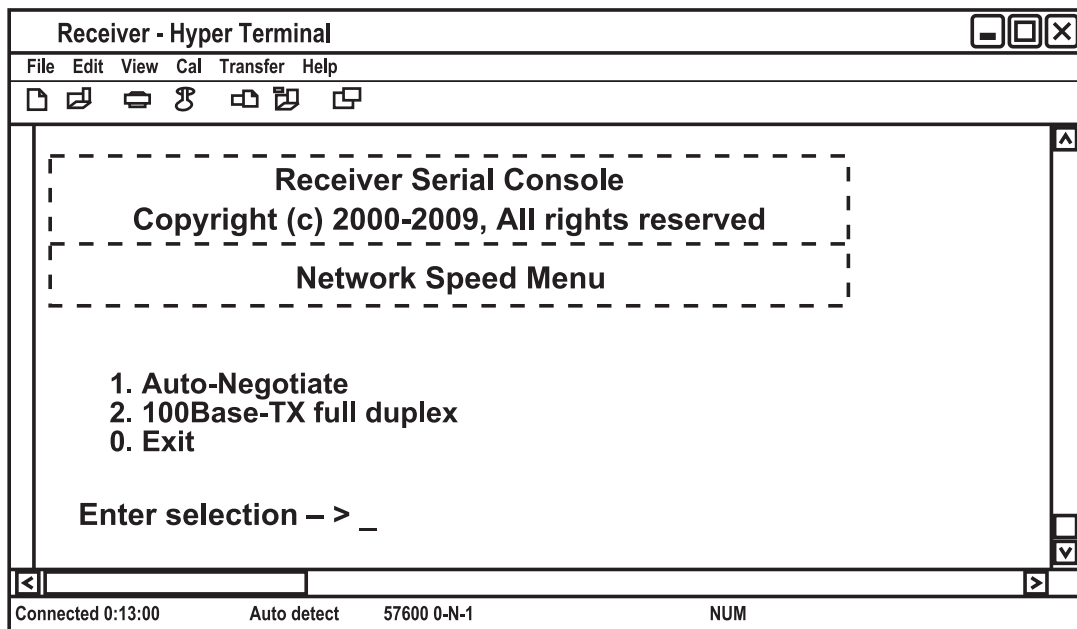

Figure 4-17. Network Speed Menu.
9. Press "6" to select the Network Speed option to toggle between Auto-Negotiate mode (option 1) or 100BASE-TX full duplex mode (option 2). (See Figure 4-17.)